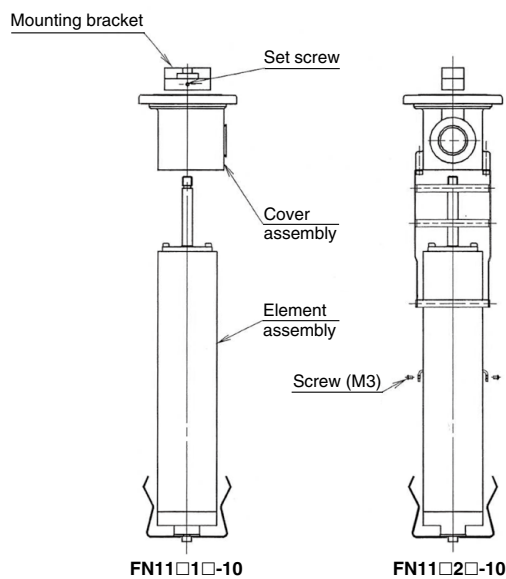

Fig. 4
- 2-5. Remove the mounting bracket inside the cover assembly. [Remove the set screw, and turn the mounting bracket. See Fig. 4]